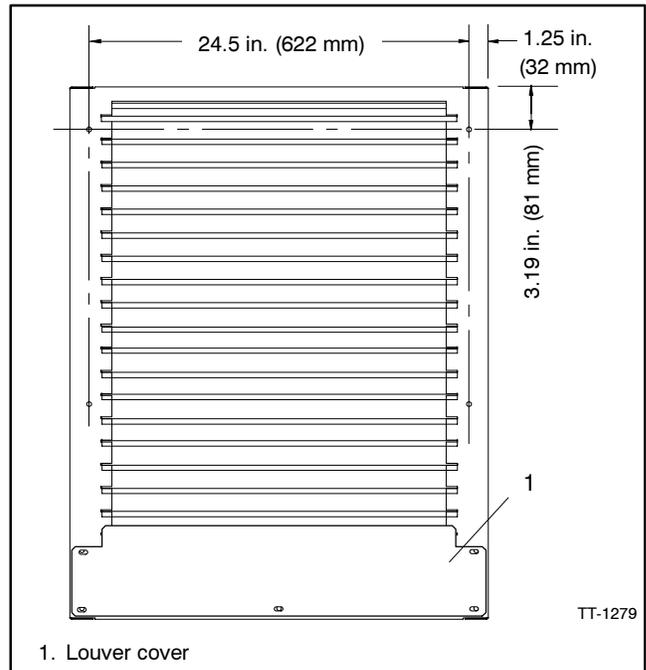
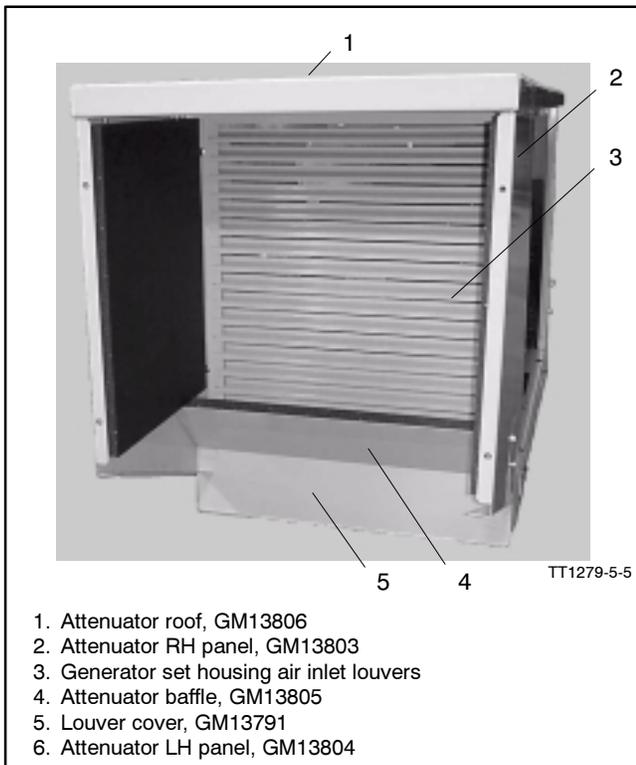
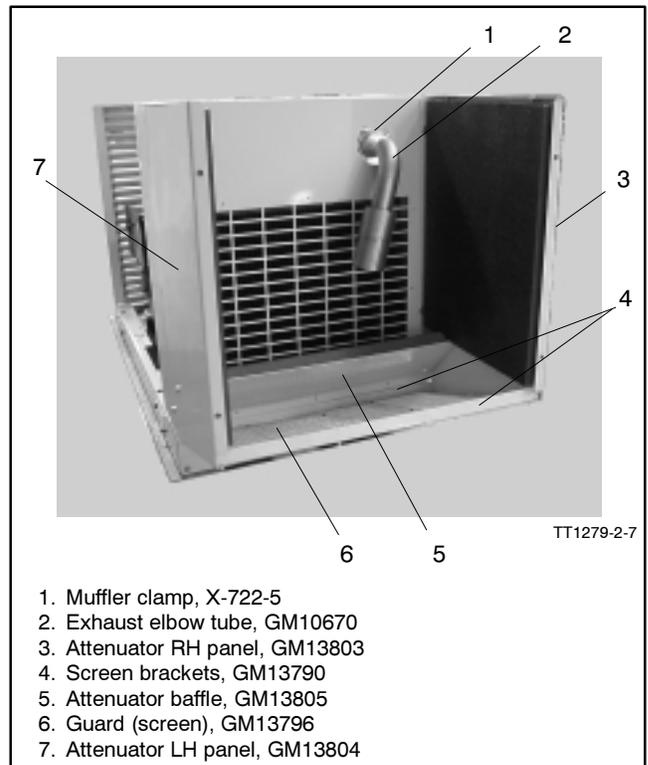

Figure 2 Attenuator Hole Locations and Louver Cover Position (air intake end)
Figure 4 Air Intake End Attenuator Partial Assembly
Figure 5 Exhaust End Attenuator Assembly (roof and front panel removed)
- 2.2 Align the edges of the louver cover (GM13791) with the sides and bottom of the housing air intake end. See Figure 2. Mark the five hole locations.
- 2.4 Measure and mark the location of the top left and top right attenuator holes at the locations shown in Figure 2. Drill two 0.297 in. (7.5 mm) holes through the generator set housing at the marks.
- 2.8 Repeat steps 2.4 through 2.7 on the generator set exhaust end. Use the hole locations shown in Figure 2 for the top attenuator holes on the exhaust end.
- 3.1 Install the louver cover (GM13791) on the air intake end of the generator set housing using five screws (X-25-40), washers (X-465-2), and nuts (X-6210-2). See Figure 2 and Figure 4 for the louver cover location and orientation.
- 3.2 Attach the exhaust elbow (GM10670) to the generator set exhaust pipe using the clamp (X-722-5) provided. Position the elbow to direct the exhaust down and toward the center of the exhaust louvers as shown in Figure 5 and tighten the clamp.
- 3.3 Mount the side panels with the foam insulation facing the inside of the attenuator. See Figure 4 and Figure 5 for the side panel orientation. Use the 1/4-20 screws (X-25-40), washers (X-465-2), and nuts (X-6210-2) (if necessary) provided.
- 3.4 Mount the angled baffles (GM13805) using four screws through the attenuator side panels for each baffle, as shown in Figure 4 and Figure 5.
- 3.6 Place two screen brackets in each attenuator. Set the screen brackets (GM13790) in place as shown in Figure 5.